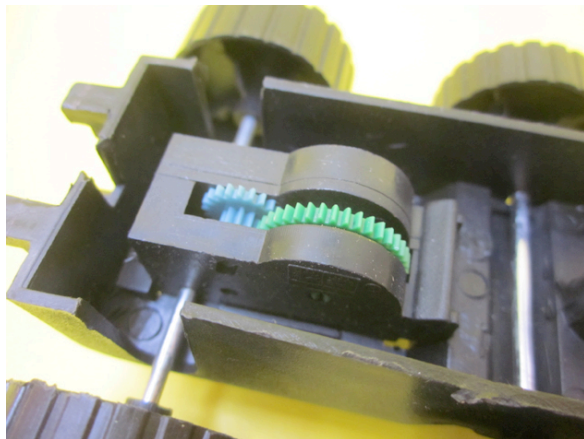

Figure 5: exposed gears of toy car
3. Play with the chassis/motor assembly and carefully observe the "back-and-forth" process of winding the car and then letting it unwind. Notice in particular the behavior of the exposed portions of the gears as shown in Figure 5.
4. Use a small flat screwdriver to gently pry the clip at the front end of the motor to remove the rear wheels/motor assembly from the rest of the chassis. See Figures 5 and 6.